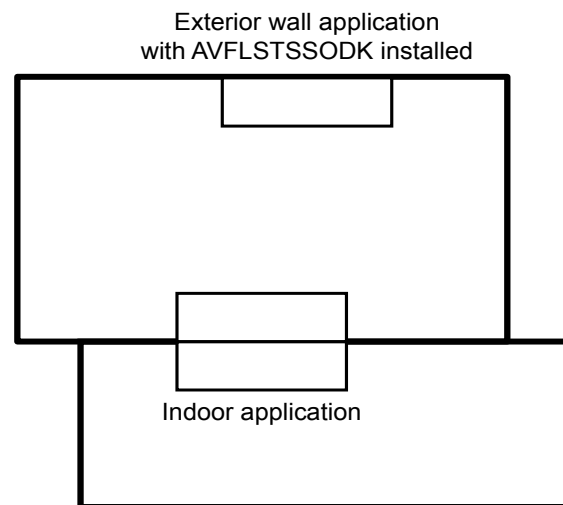
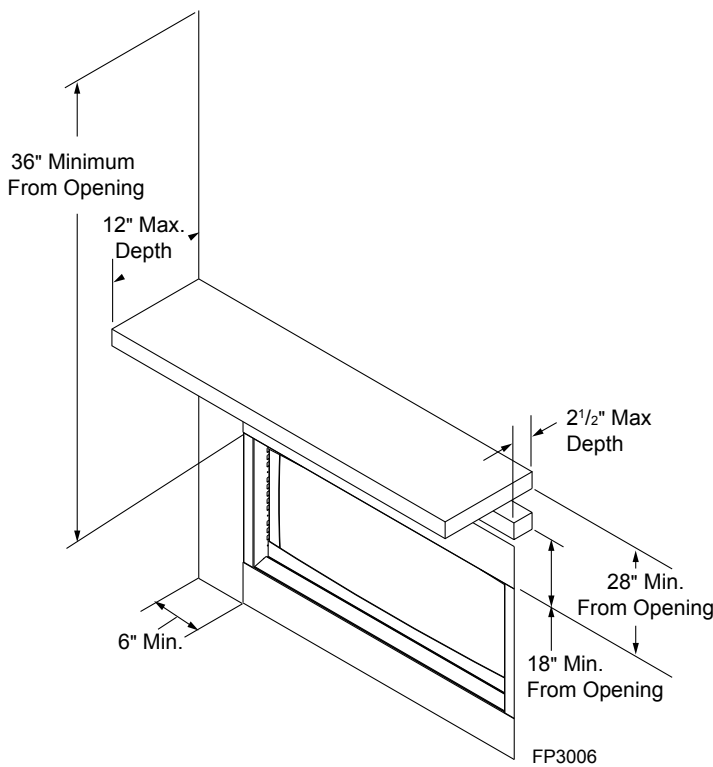

Figure 5. Possible Fireplace Locations
Figure 6. Sidewall and Ceiling Clearances
1. Position fireplace in desired location. Refer to the Fireplace and Framing Dimensions (page 6, Figures 2 and 3,) Fireplace Location (page 8, Figure 5) and Clearances and Height Requirements (page 9, Figures 6 and 7.)
- Minimize modifications to existing construction. Refer to Figure 5 below for location suggestions.
Ensure that minimum clearances shown in Figures 6 and 7 are maintained. Left and right clearances are determined when facing the front of the firebox.
**Sidewall Clearances** — The clearance from the inside of the appliance to any combustible adjacent wall should not be less than 6". Figure 6
**Ceiling Clearance** — The ceiling or any other combustible material must be at least 36" from the firebox opening. Figure 6
The dimensions shown in Figures 5 and 6 are minimum clearances to maintain when installing this heater. Left and right clearances are determined when facing the front of the heater.
**Mantel clearances** — Must meet the clearance requirements detailed in Figures 6 and 7.